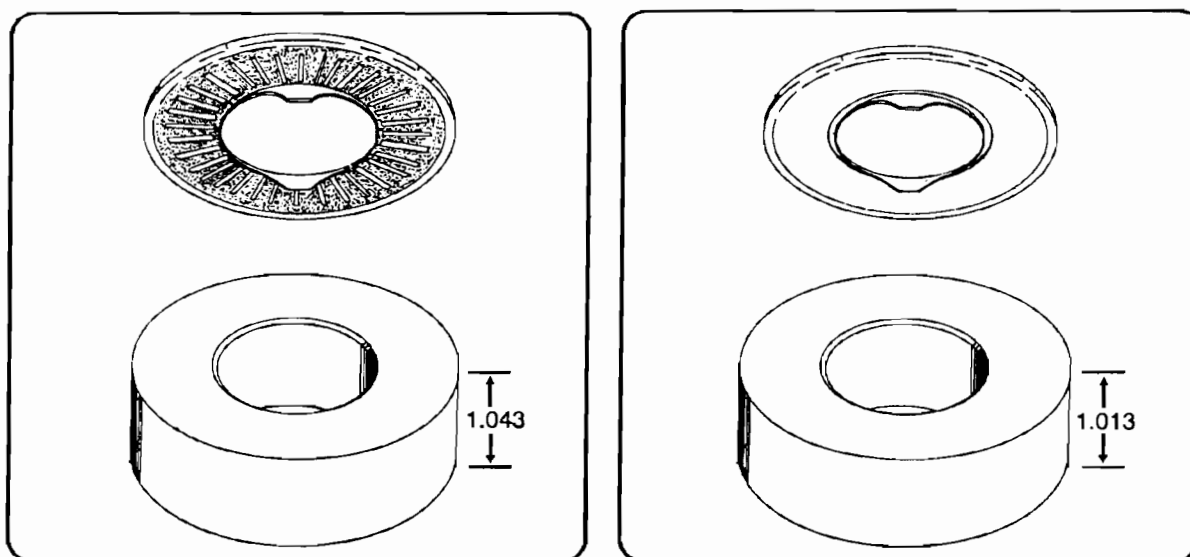

Figure 8
1. Low Roller clutch inner race: The low roller clutch inner race height has been reduced by .030" to accomodate a revised hub to race bearing. The previous (before 2/24/89) inner race height was 1.043". The new design (after 2/24/89) inner race height is 1.013". (See Fig. 8)